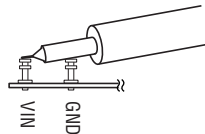

Figure 2. Scope Probe Placement for Measuring Input or Output Ripple
**NOTE:** When measuring the input or output voltage ripple, care must be taken to avoid a long ground lead on the oscilloscope probe. Measure the input or output voltage ripple by touching the probe tip directly across the Vin or Vout and GND terminals. When measuring the output ripple, see Figure 2 for proper scope probe technique.